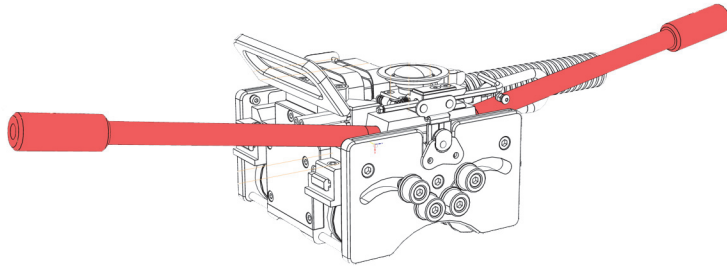

Figure 2-9 WeldROVER—Two steering levers are provided with the system
1. Determine the required steering lever position(s): at the front or back of the WeldROVER, or at both locations (see Figure 2-9 on page 32).